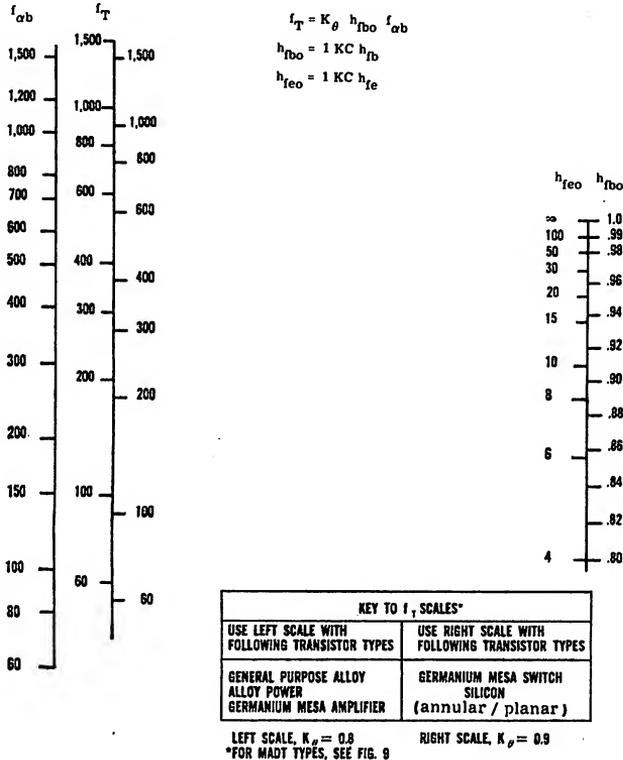
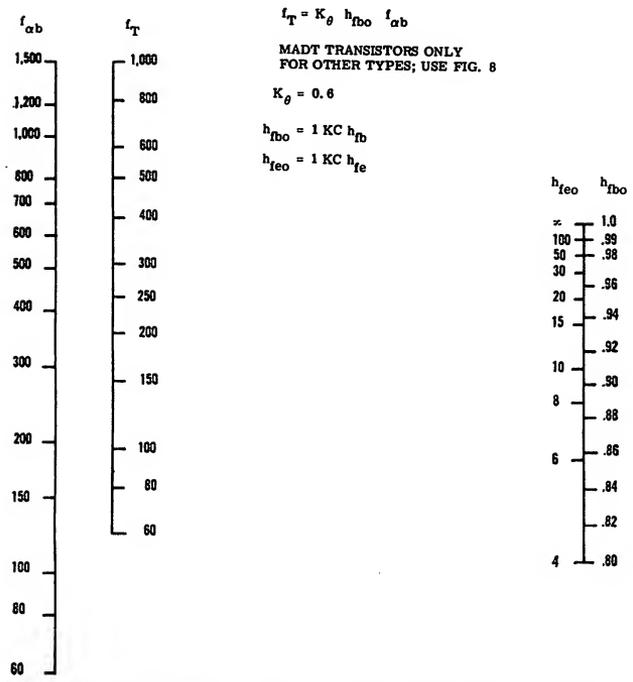

Fig. 8. This nomogram represents f_T , f_b , and either h_{fbo} or h_{fso} .
Fig. 10. Identical to Fig. 8, this nomogram is used only for MADT transistors.
- (B) If f_T is not known use Fig. 5 to find f_T if h_{feo} and $f_{\alpha e}$ are known or Fig. 8 to find f_T if $f_{\alpha b}$ is known (Fig. 10 for MADT types).
Figure 8 is a nomogram of f_T , $f_{\alpha b}$, and either h_{fb0} or h_{fe0} . To account for variations in this relationship with different transistor types, there are two f_T
scales, with a guide to which one to use. Given: for a germanium mesa switching transistor, $f_T = 400$ mc and $h_{fbo} = 0.90$. Find: $f_{\alpha b}$. Answer: 494 mc. For MADT types, see Fig. 10.
Figure 10 is a nomogram which is identical to Fig. 8 except that it is for use with MADT transistors (see instructions for Fig. 8).